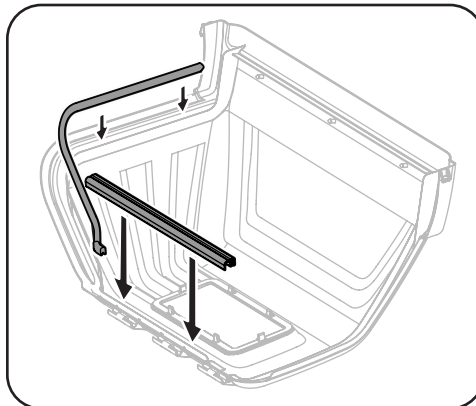

Figure 4-11
- If not already installed, apply seals (720-05151A) and (720-05152B) to the underside of the upper grass catcher cover (731-12348D) as shown below. See Figure 4-11.